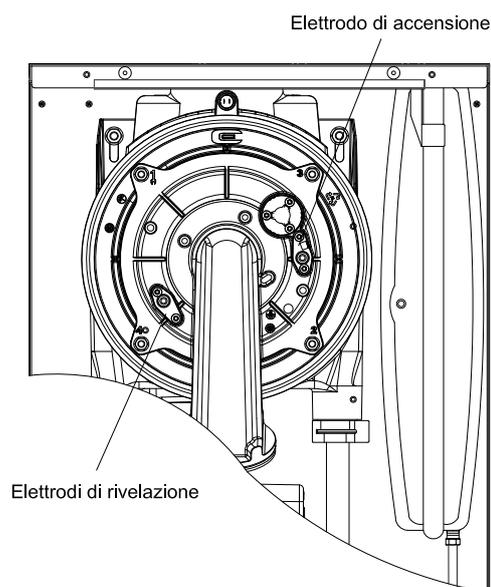

Fig. 30
7.2 SOSTITUZIONE ELETTRODI (Fig. 30)